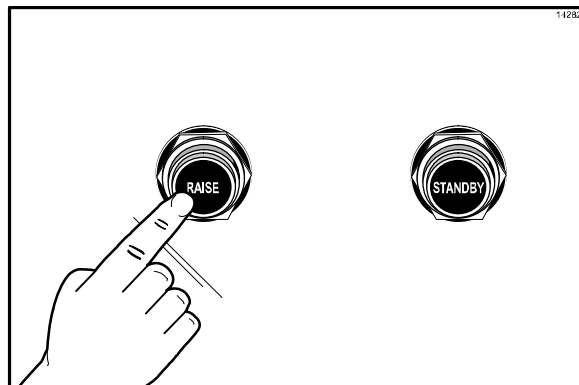

Figure 37
1. Raise the upper platen to the OPEN position by pressing the red RAISE key. (See Figure 37.)